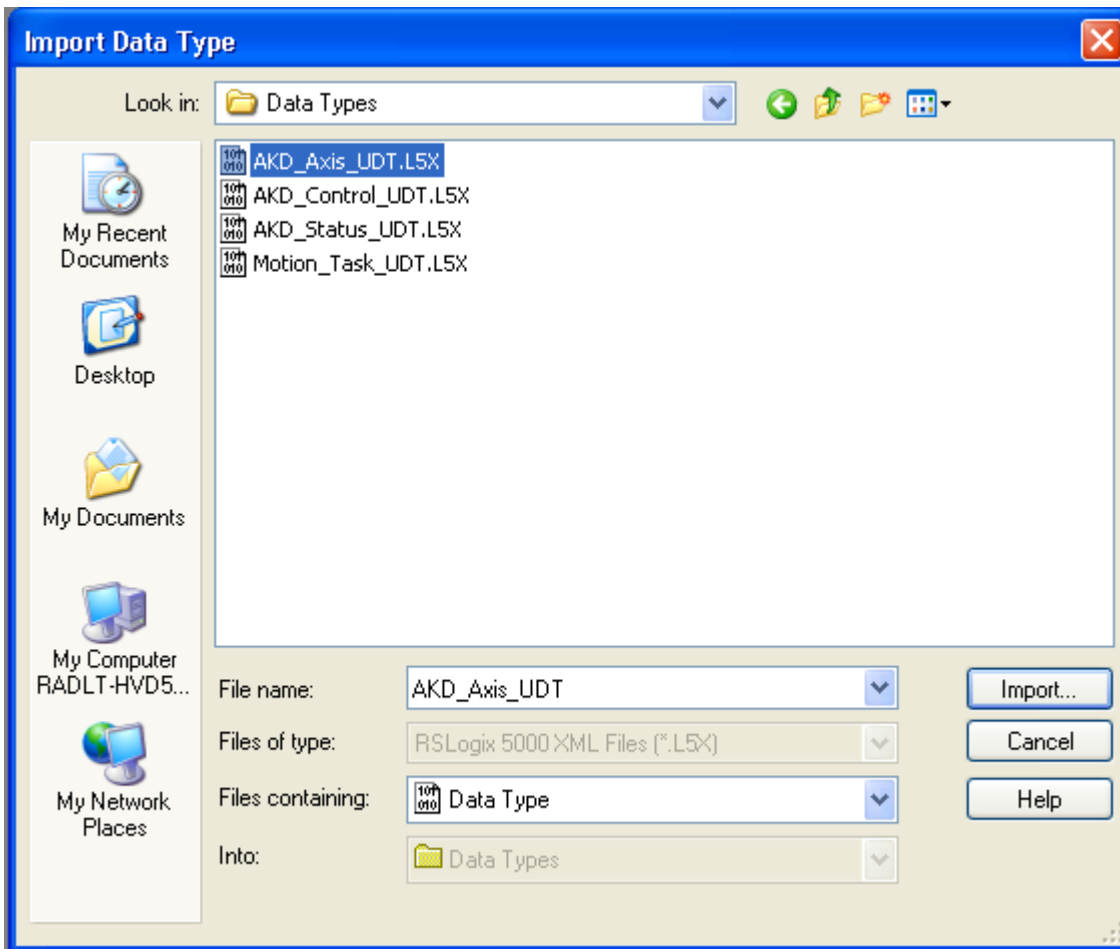

Figure 5-7: Selecting a UDT
2. Browse to the location of the AKD User Defined Data Type library and select the desired User Defined Data Type then click "Import..." (Figure 5-7: Selecting a UDT)